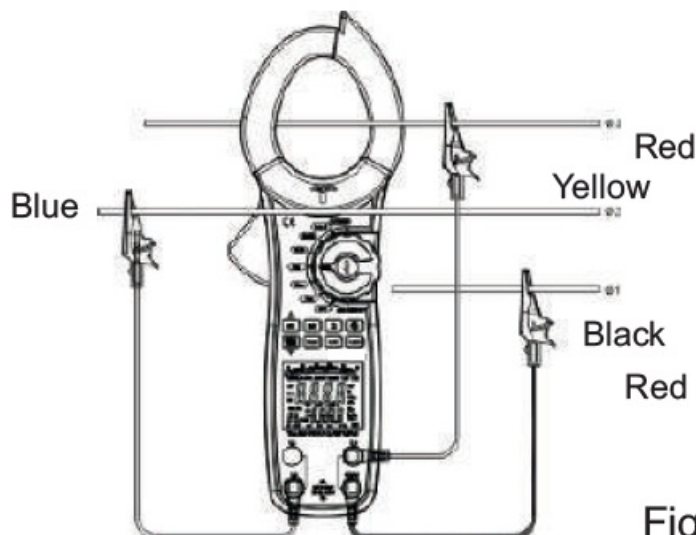

Figure 15
- When measuring 3 phase 3 wires, Hold SEL for 5 seconds and the Meter shows, press SEL again for 5 seconds to exit 3 phase 3 wires, connecting the Meter as figure 15.